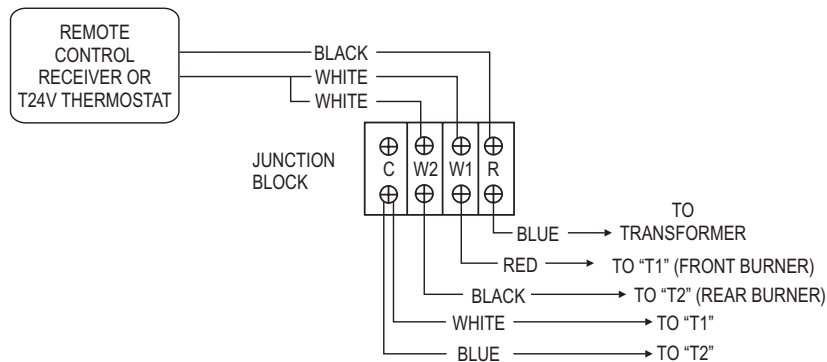
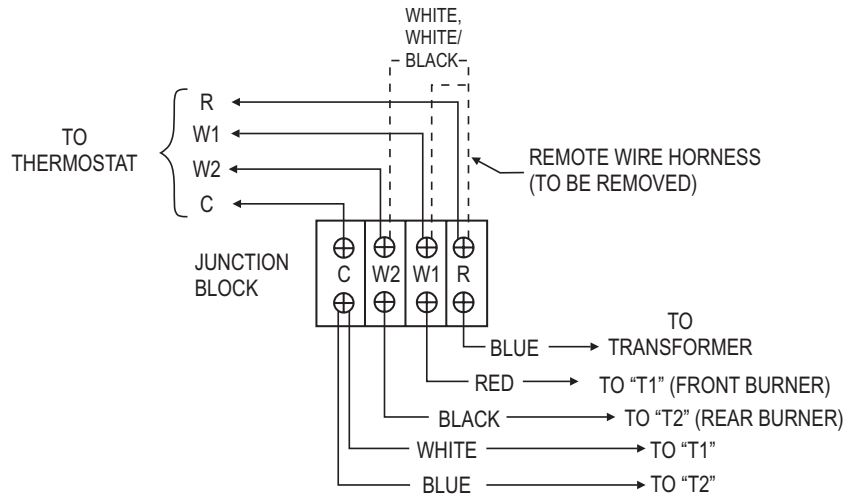

Figure 62
Figure 64
Determine mounting location of thermostat. Using standard 18 AWG wire, run four (4) strands of wire into rear of Mantis (See Figure 62) to junction block. Cut wire to correct length. Remove blue jumper wire from junction block and save for future use. Connect four (4) new thermostat wires to Mantis using schematic. See Figure 64.